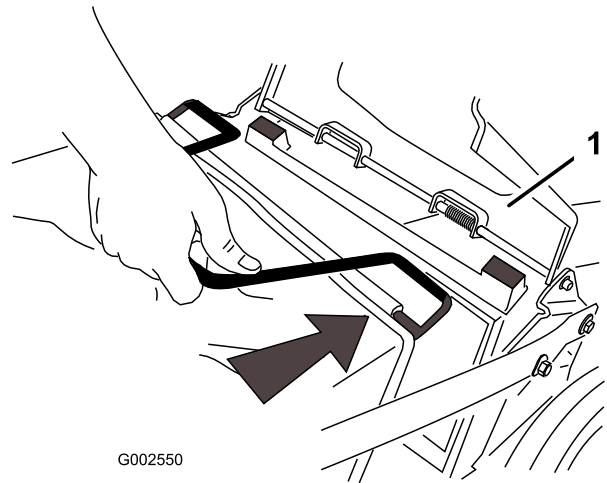

Figure 17
2. Raise and hold up the rear door (Figure 17).